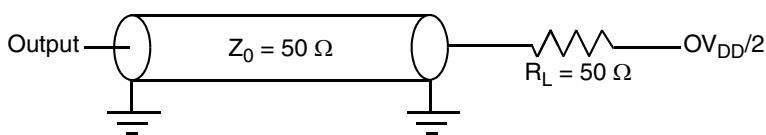
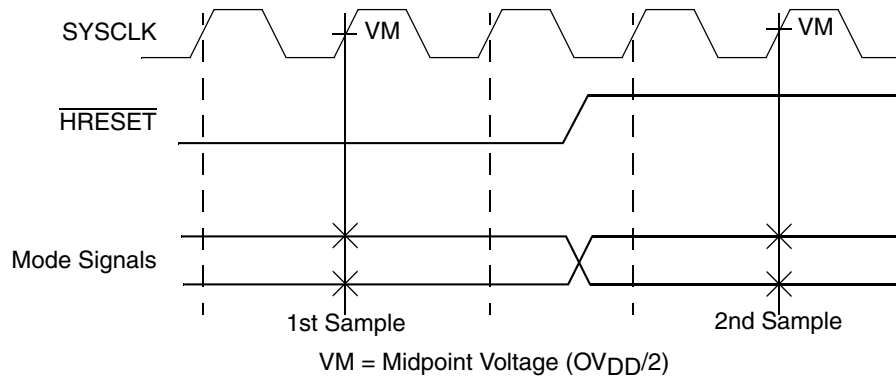
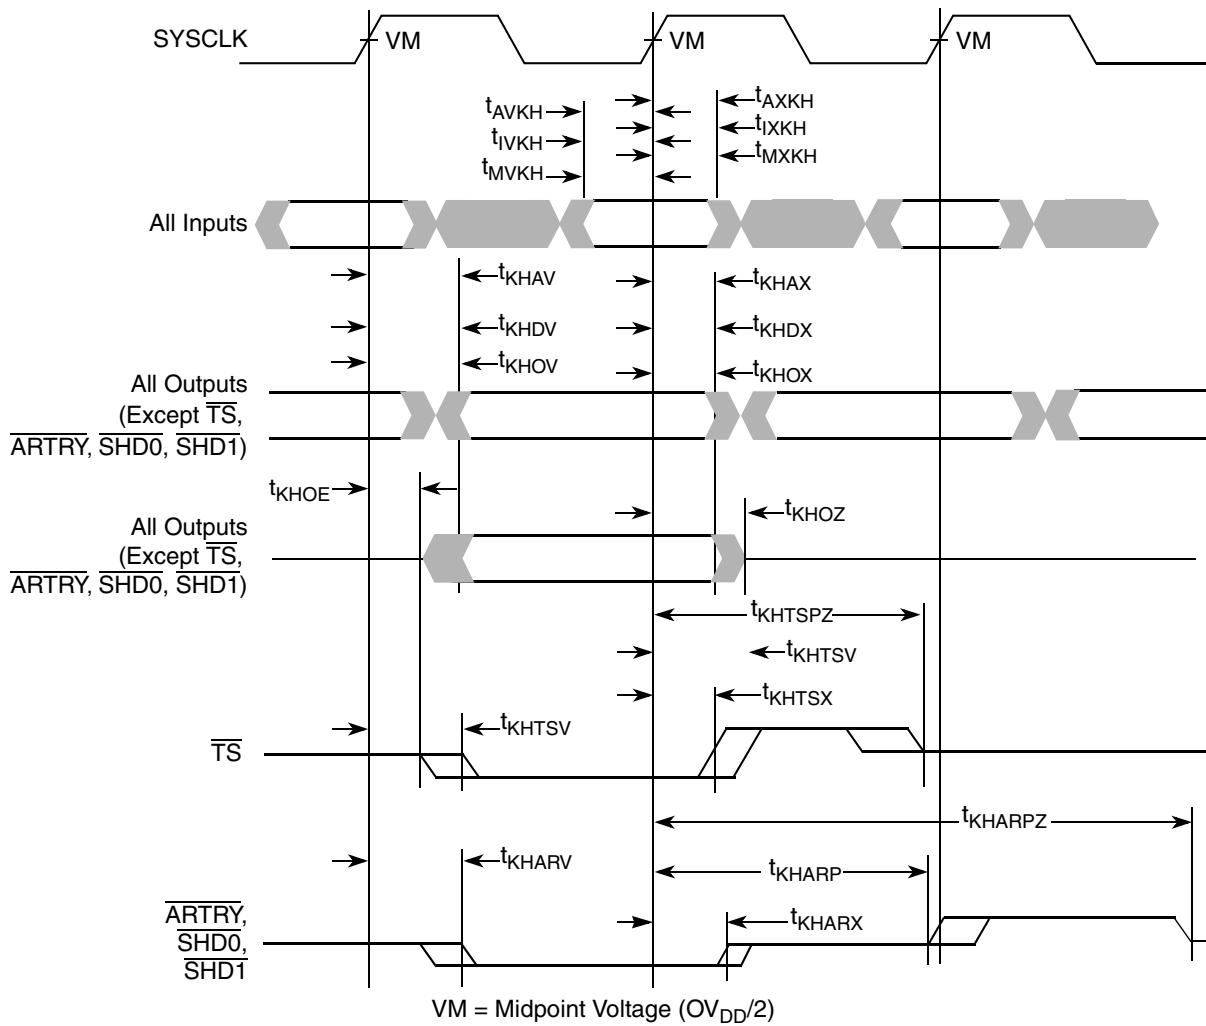

Figure 4. AC Test Load
Figure 5. Mode Input Timing Diagram
Figure 6. Input/Output Timing Diagram
Table 8 provides the clock AC timing specifications as defined in Figure 6 and represents the tested operating frequencies of the devices. The maximum system bus frequency, f_{SYSCLK} , given in Table 8 is considered a practical maximum in a typical single-processor system. The actual maximum SYSCLK frequency for any application of the MPC7457 will be a function of the AC timings of the MPC7457, the AC timings for the system controller, bus loading, printed-circuit board topology, trace lengths, and so forth, and may be less than the value given in Table 8. For information regarding the use of spread spectrum clock generators, see Section 9.1.3, “System Bus Clock (SYSCLK) and Spread Spectrum Sources.” PLL configuration and bus-to-core multiplier information is found in Section 9.1.1, “Core Clocks and PLL Configuration.”
Table 9 provides the processor bus AC timing specifications for the MPC7457 as defined in Figure 4 and Figure 5. Timing specifications for the L3 bus are provided in Section 5.2.3, “L3 Clock AC Specifications.”
1. All input specifications are measured from the midpoint of the signal in question to the midpoint of the rising edge of the input SYSClk. All output specifications are measured from the midpoint of the rising edge of SYSClk to the midpoint of the signal in question. All output timings assume a purely resistive 50-Ω load (see Figure 4). Input and output timings are measured at the pin; time-of-flight delays must be added for trace lengths, vias, and connectors in the system.
2. The symbology used for timing specifications herein follows the pattern of $t_{(\text{signal})(\text{state})(\text{reference})(\text{state})}$ for inputs and $t_{(\text{reference})(\text{state})(\text{signal})(\text{state})}$ for outputs. For example, t_{VKKH} symbolizes the time input signals (I) reach the valid state (V) relative to the SYSClk reference (K) going to the high (H) state or input setup time. And t_{KHOV} symbolizes the time from SYSClk(K) going high (H) until outputs (O) are valid (V) or output valid time. Input hold time can be read as the time that the input signal (I) went invalid (X) with respect to the rising clock edge (KH) (note the position of the reference and its state for inputs) and output hold time can be read as the time from the rising edge (KH) until the output went invalid (OX).
4. According to the bus protocol, $\overline{\text{TS}}$ is driven only by the currently active bus master. It is asserted low then precharged high before returning to high impedance as shown in Figure 6. The nominal precharge width for $\overline{\text{TS}}$ is $0.5 \times t_{\text{SYSClk}}$, that is, less than the minimum t_{SYSClk} period, to ensure that another master asserting $\overline{\text{TS}}$ on the following clock will not contend with the precharge. Output valid and output hold timing is tested for the signal asserted. Output valid time is tested for precharge. The high-impedance behavior is guaranteed by design.
6. According to the bus protocol, $\overline{\text{ARTRY}}$ can be driven by multiple bus masters through the clock period immediately following $\overline{\text{AACK}}$. Bus contention is not an issue because any master asserting $\overline{\text{ARTRY}}$ will be driving it low. Any master asserting it low in the first clock following $\overline{\text{AACK}}$ will then go to high impedance for one clock before precharging it high during the second cycle after the assertion of $\overline{\text{AACK}}$. The nominal precharge width for $\overline{\text{ARTRY}}$ is $1.0 t_{\text{SYSClk}}$; that is, it should be high impedance as shown in Figure 6 before the first opportunity for another master to assert $\overline{\text{ARTRY}}$. Output valid and output hold timing is tested for the signal asserted. The high-impedance behavior is guaranteed by design.
8. $\overline{\text{BMODE}}[0:1]$ and $\overline{\text{BVSEL}}$ are mode select inputs and are sampled before and after $\overline{\text{HRESET}}$ negation. These parameters represent the input setup and hold times for each sample. These values are guaranteed by design and not tested. These inputs must remain stable after the second sample. See Figure 5 for sample timing.
Figure 4 provides the AC test load for the MPC7457.
Figure 5 provides the mode select input timing diagram for the MPC7457.
Figure 6 provides the input/output timing diagram for the MPC7457.